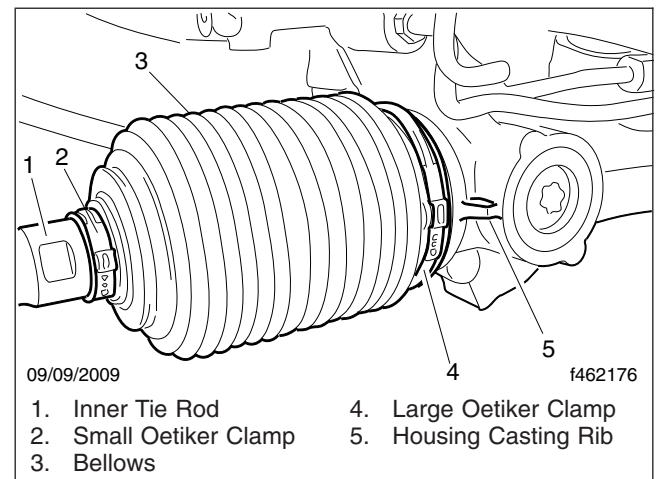

Fig. 9, Oetiker Clamp Alignment
- 14.2 Ensure the large Oetiker clamp is properly seated in the clamp groove on the bellows. Align the large Oetiker clamp ear with the small clamp ear. Both clamp ears should be aligned with the rack housing casting rib. See Fig. 9.